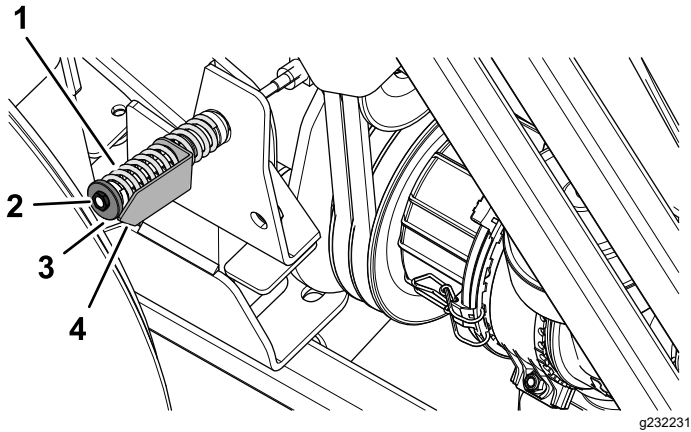

Figure 89
5. If needed, rotate the nut for the idler-pulley tensioner until the tension-indicator arrow aligns with the outer surface of the washer (Figure 89).
8. Loosen the nut for the idler-pulley tensioner; refer to Figure 89 in Checking the PTO Belt Tension (page 64).